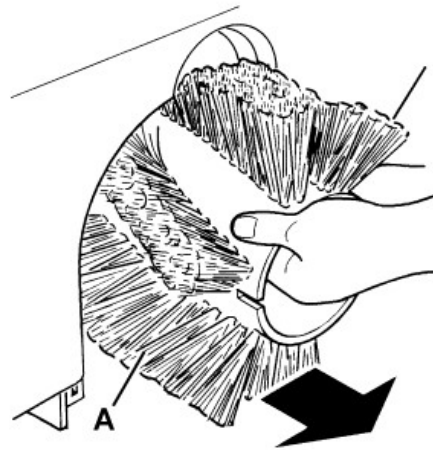

Figure 5
6. Remove the broom (A, Fig. 5).